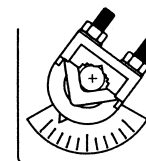
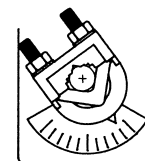

FIG. 8
FIG. 9
1. Rotate the valve linkage lever (1) so that valve stem is fully down.
2. Depress the actuator's disengagement button (5) and manually position the pointer to the first mark from full Clockwise (see FIG.8)
3. Place the actuator over the linkage shaft (2) and the non-rotation pin (3) until the cover on the actuator rests against the linkage cover.
4. Finger tighten 2 coupler nuts (4) until the u-bolt (6) contacts the linkage shaft (2).
5. Holding the linkage lever (1) to assure valve stem stays down, and checking that the actuator cover is held against the linkage, evenly torque the 2 coupler nuts (4) to 110-120 in-lbs.
6. Check final operation by depressing the disengagement button (5) and rotating the linkage lever (1) in each direction.
**3-Way Valves:** The valve seats should limit the actuator pointer between the first mark from full clockwise (FIG. 8) and the first mark from full counterclockwise (FIG. 9).
**2-Way Valves:** The valve seat should limit the actuator pointer from passing the first mark from full clockwise (FIG. 8).
7. Readjust, if needed, by loosening the 2 coupler nuts (4) and adjusting.